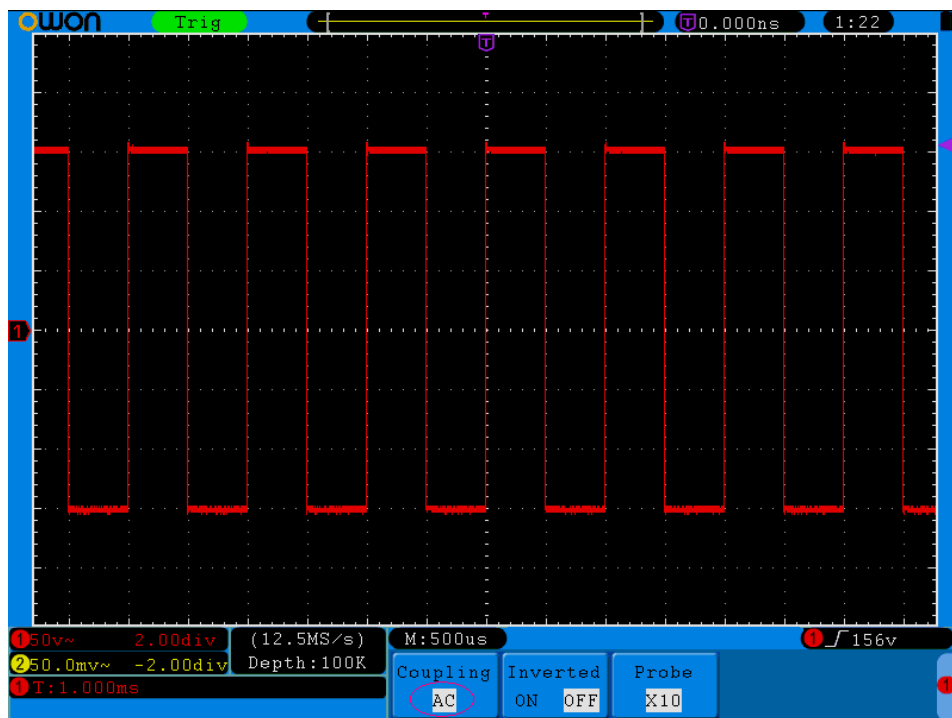

Fig. 5-2 AC Coupling Oscillogram
- (1) Press the **CH1 MENU** button and call out the CH1 SETUP menu.
- (2) Press the **H1** button, the Coupling menu will display at the screen.
- (3) Press the **F1** button to select the Coupling item as "DC". Both DC and AC components of the signal are passed.
- (4) Then, press **F2** button to select the Coupling item as "AC". The direct current component of the signal is blocked. The waveforms are shown as Fig.5-2.